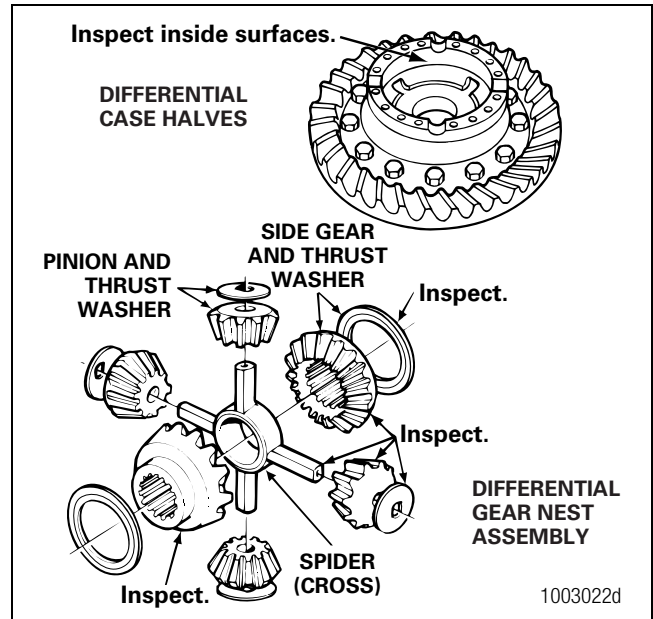

Figure 4.6
3. Inspect the following main differential assembly parts for wear or stress. Replace parts that are damaged. Figure 4.6.